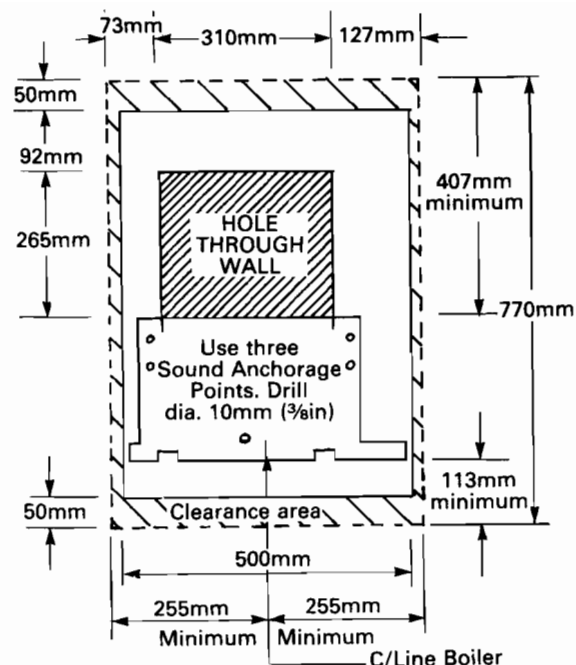
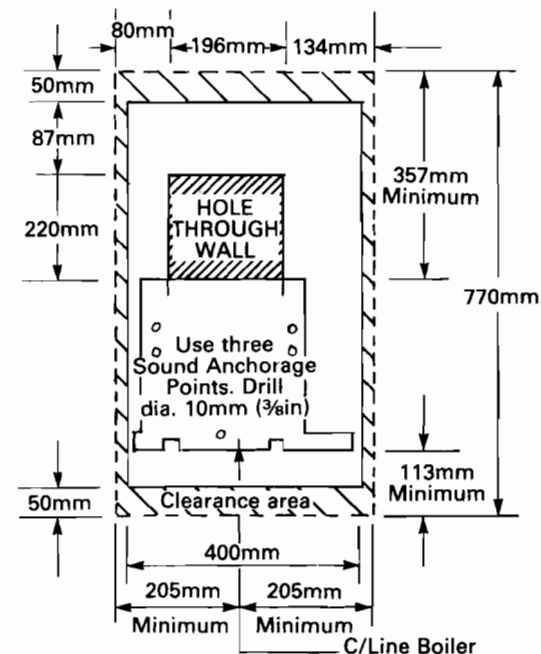

Fig. 2. Wall Mounting Plate Requirements WM 51/3RS
Fig. 4. Wall Mounting Plate Requirements WM 30/3 RS
- (c) Position the centre line marking on the bottom edge of the wall mounting plate to correspond with the chosen centre position (see Figs. 2, 3 & 4).
- (i) Mark off the position of the bottom and side edges of the flue opening (the sides are indicated by the marks on the top edges of the wall mounting plate. For WM 51/3 RS see Fig. 2, for WM 30/3 RS and WM 20/3 RS see Fig. 4.
- (b) Complete the marking out of the hole for the flue ducting above the marked lines, and then cut out a neat hole (for sizes see Figs. 2, 3 & 4 respectively).